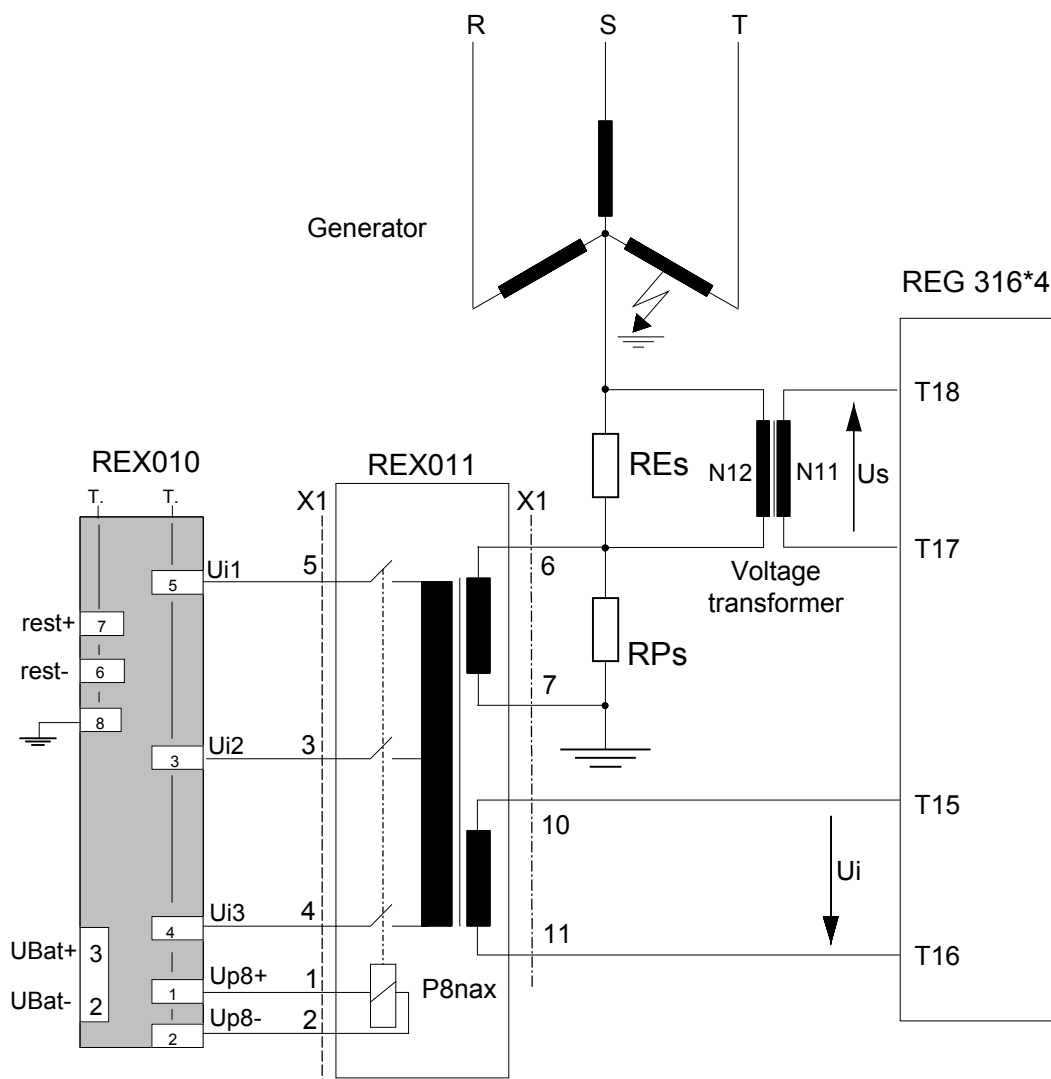

Fig. 2.4 Wiring diagram for primary injection at the stator using REX 011 (see Fig. 2.11)
- Fig. 2.4 Wiring diagram for primary injection at the stator using REX 011